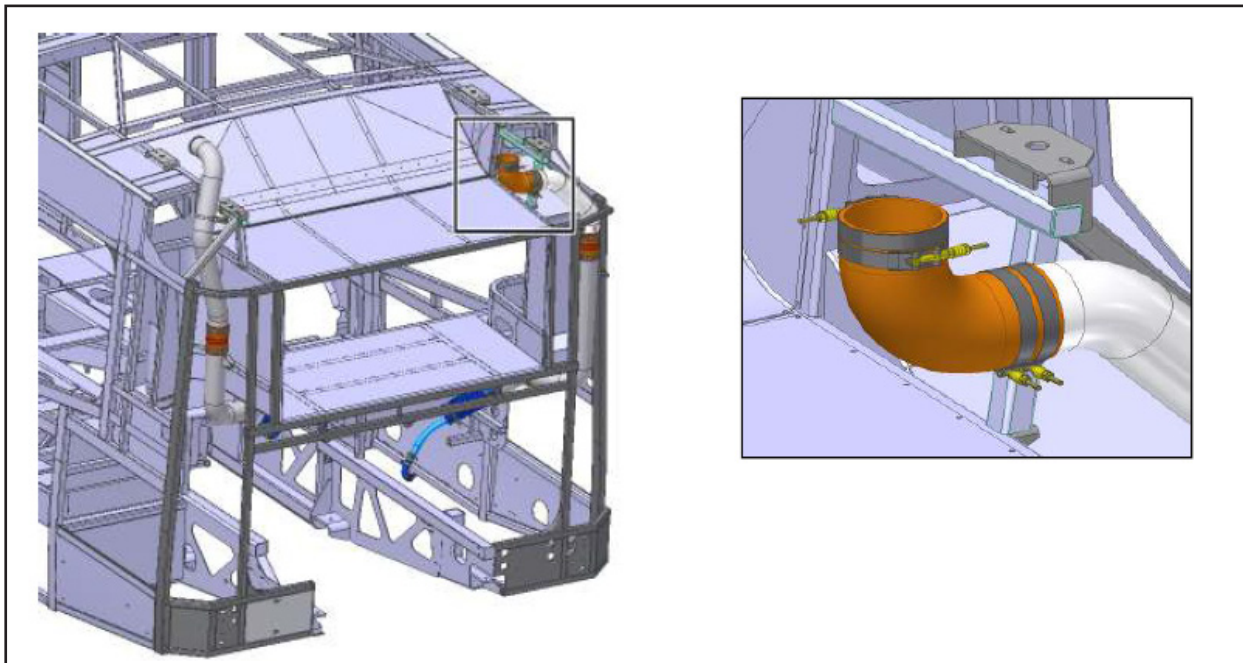

Figure 3 - View of Elbow in Charge Air Cooler Pipe
- 1.6. Install new elbow N75007 and discard the old one (see figure 3).